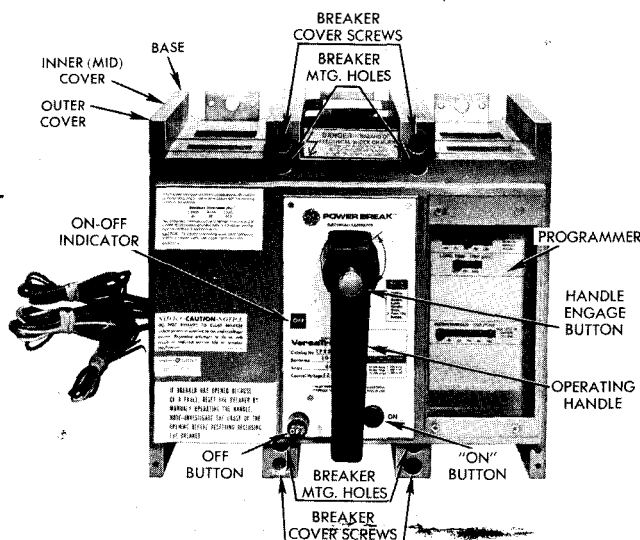

Figure 20. 800A Frame Electrical Breaker
a. Outer Cover Removal.—See Fig. 20 or 21.
3. Remove four outer cover mounting screws (Fig. 20 and 21).
- Position handle at the home position (6 o'clock) on the outer cover. Align outer cover mounting screw holes with those of the inner cover and install four cover mounting screws, see Figs. 20 and 21. Secure with 50 to 60 inch pounds torque.